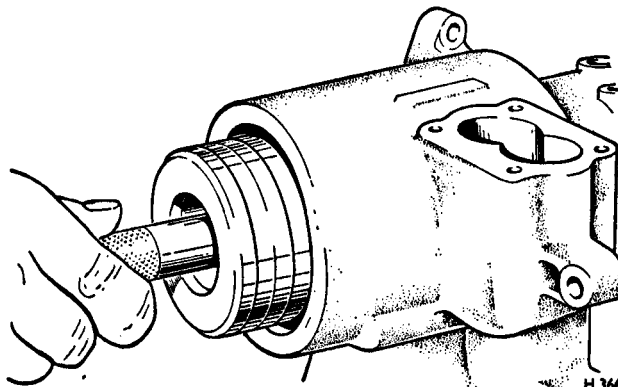

FIG. N24 INSTALLING RACK-PISTON ARBOR TOOL IN END OF WORM
12. Insert Rack-piston Arbor (RH 7787), into the rack-piston against the end of the worm shaft. Turn the coupling flange anti-clockwise, (left-hand drive cars) and clockwise (right-hand drive cars) while holding the tool tightly against the worm to force the rack-piston on to the arbor, then remove the rack-piston from the gear housing (see Fig. N24).